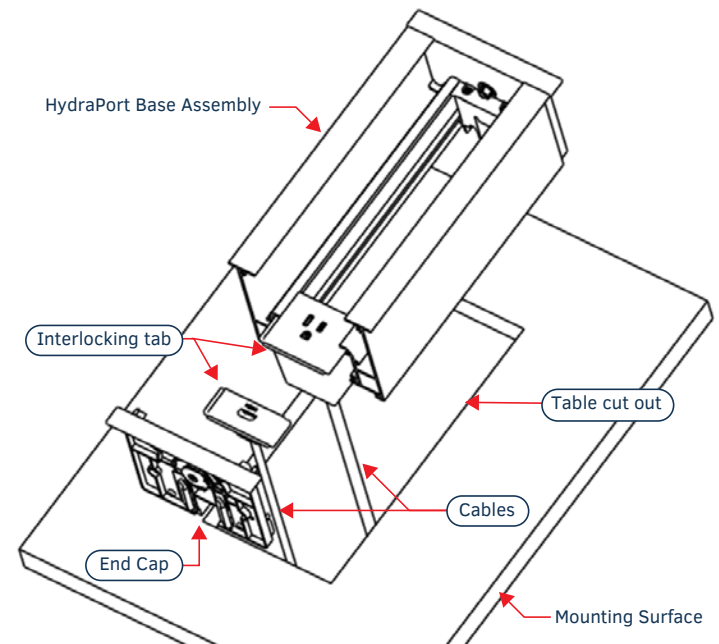

FIG. 2 INSERTING THE MODULES INTO THE ASSEMBLY
- For terminations for which the far end of the cable is not accessible (either because the cable has been run under carpet, in a conduit or structure, or is otherwise fixed), the cable must be placed through the cutout in the table prior to installation, as indicated in FIG. 2.
Note the orientation of each HydraPort Module - a small tab exists on one side of the faceplate of each module that fits tongue in groove into the next module. Ensure all tabs are facing the same direction (see FIG. 2).